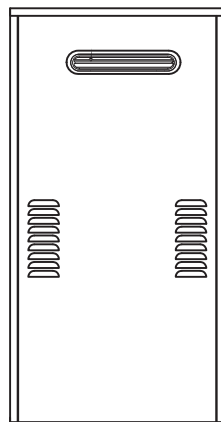

Figure 5: Completed installation.
- After confirming the heater is operating correctly, replace the front cover of the recess box as shown in Figure 5.